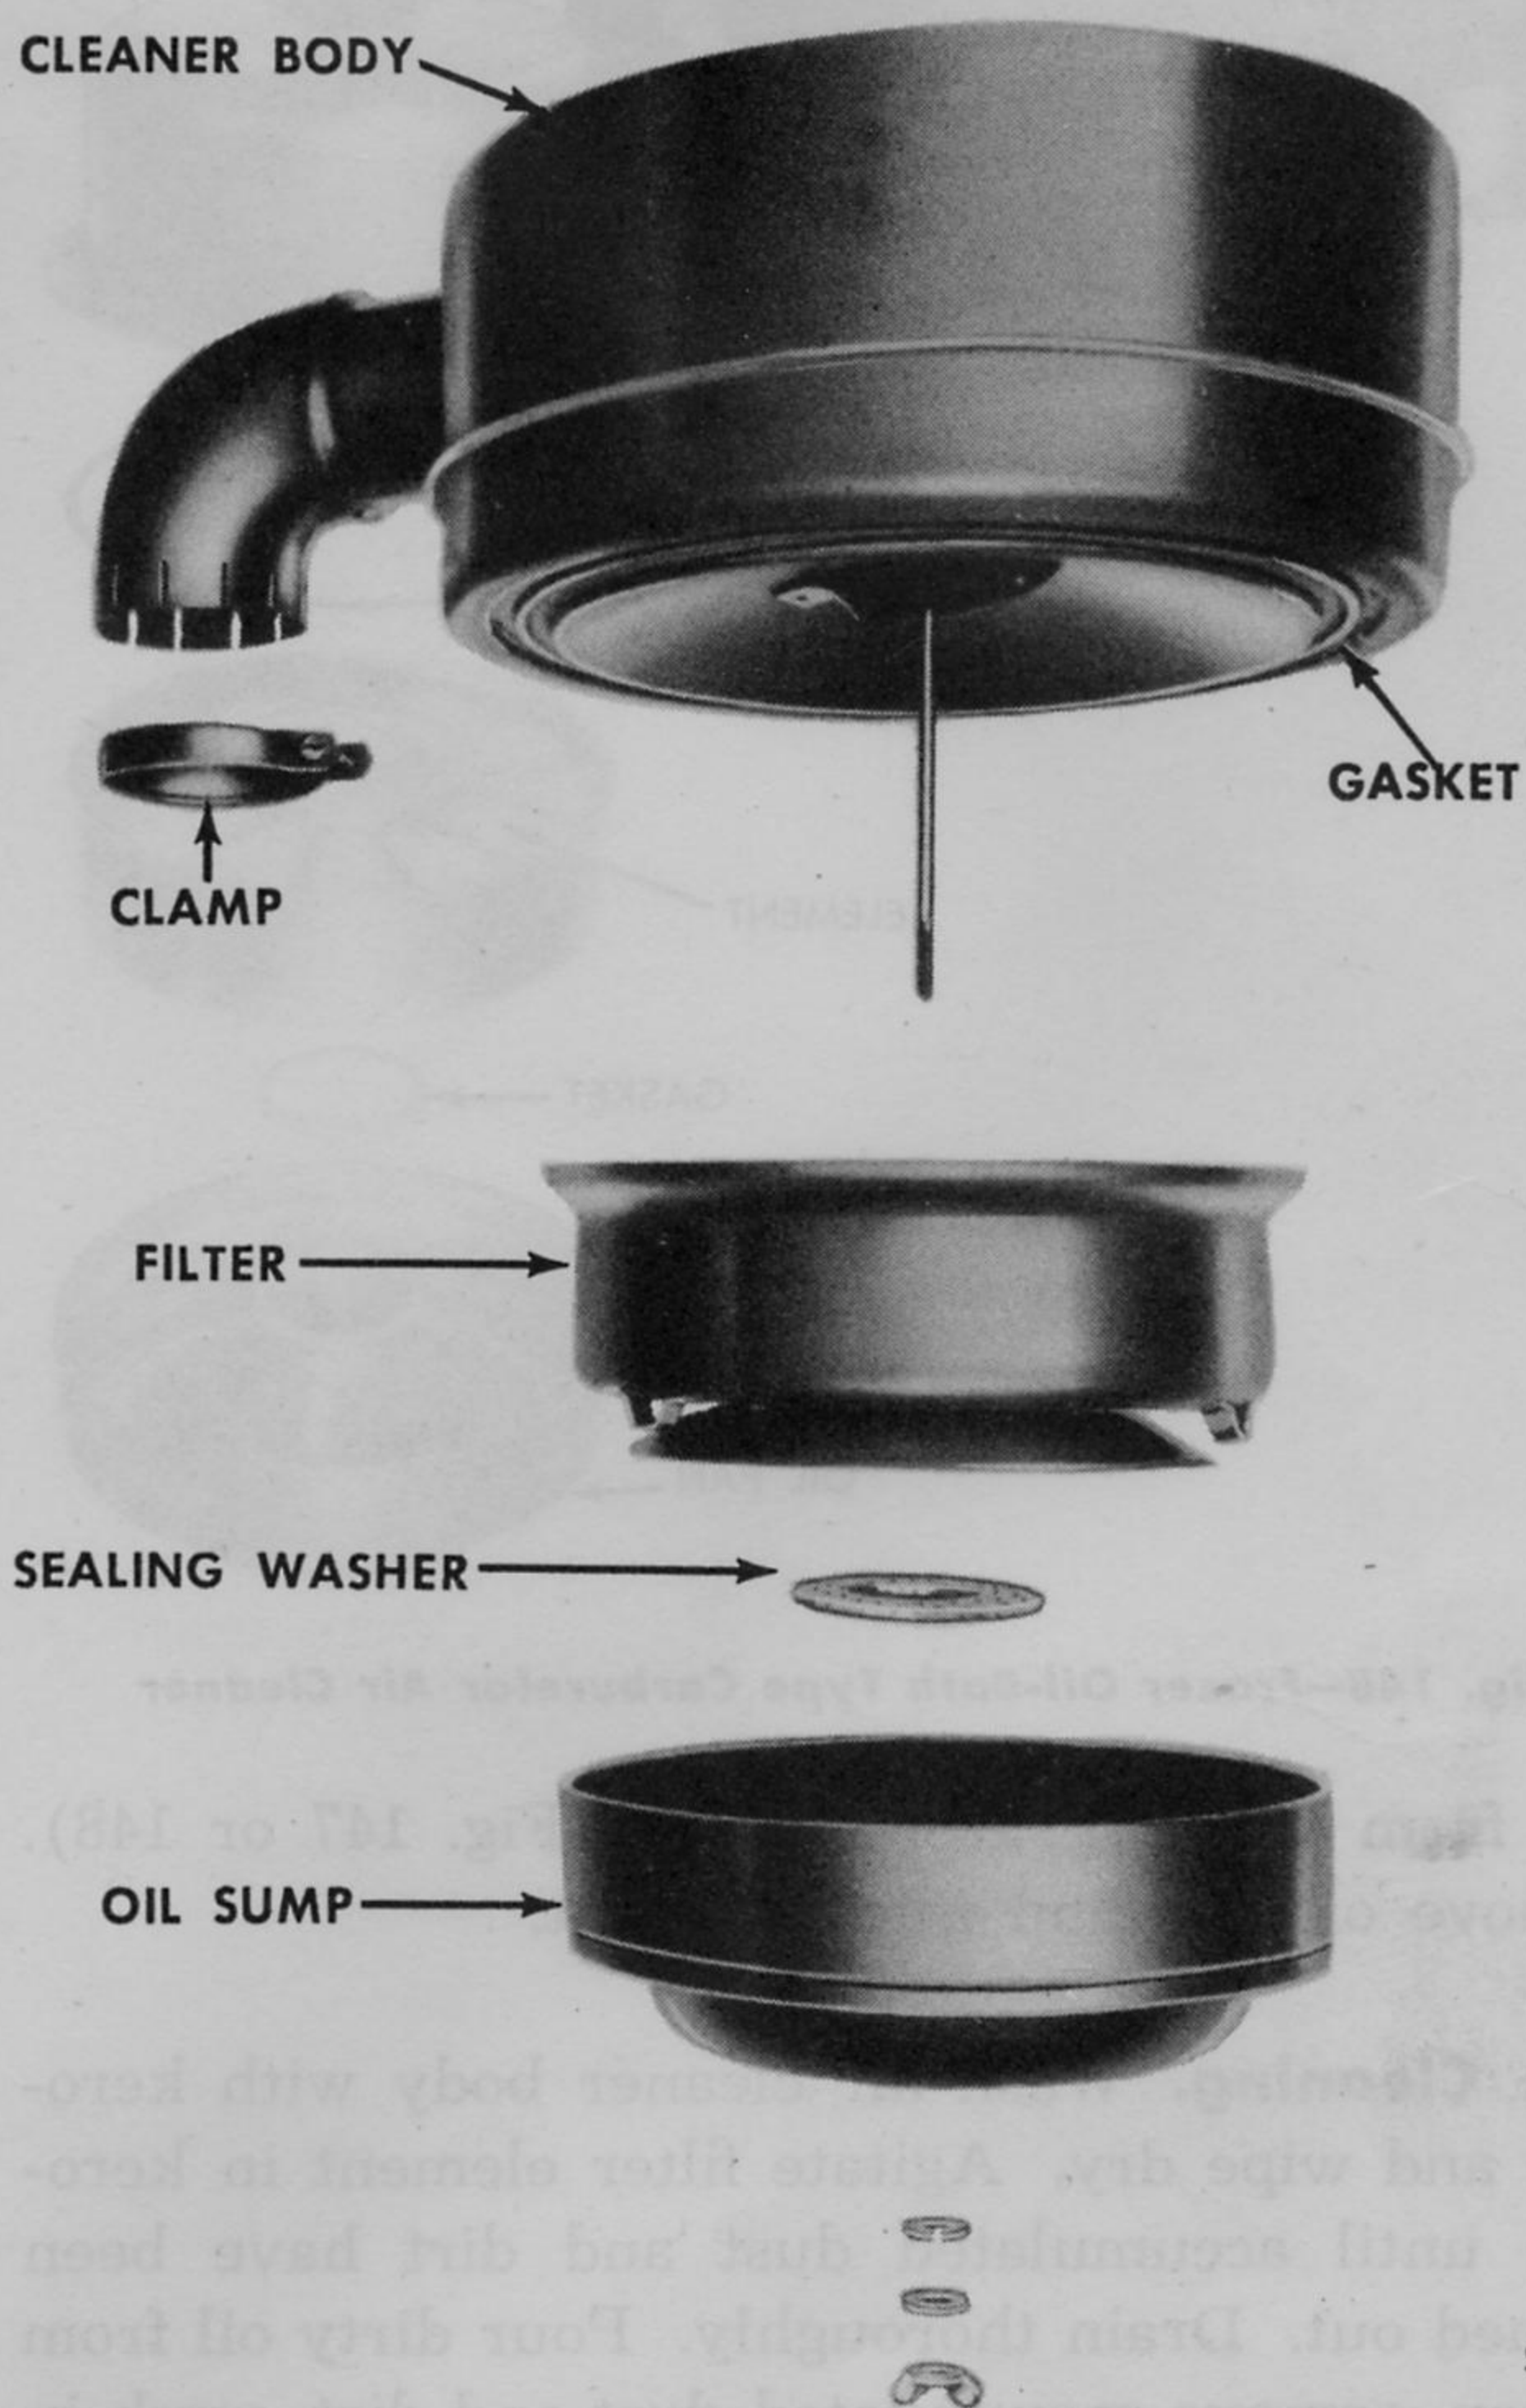
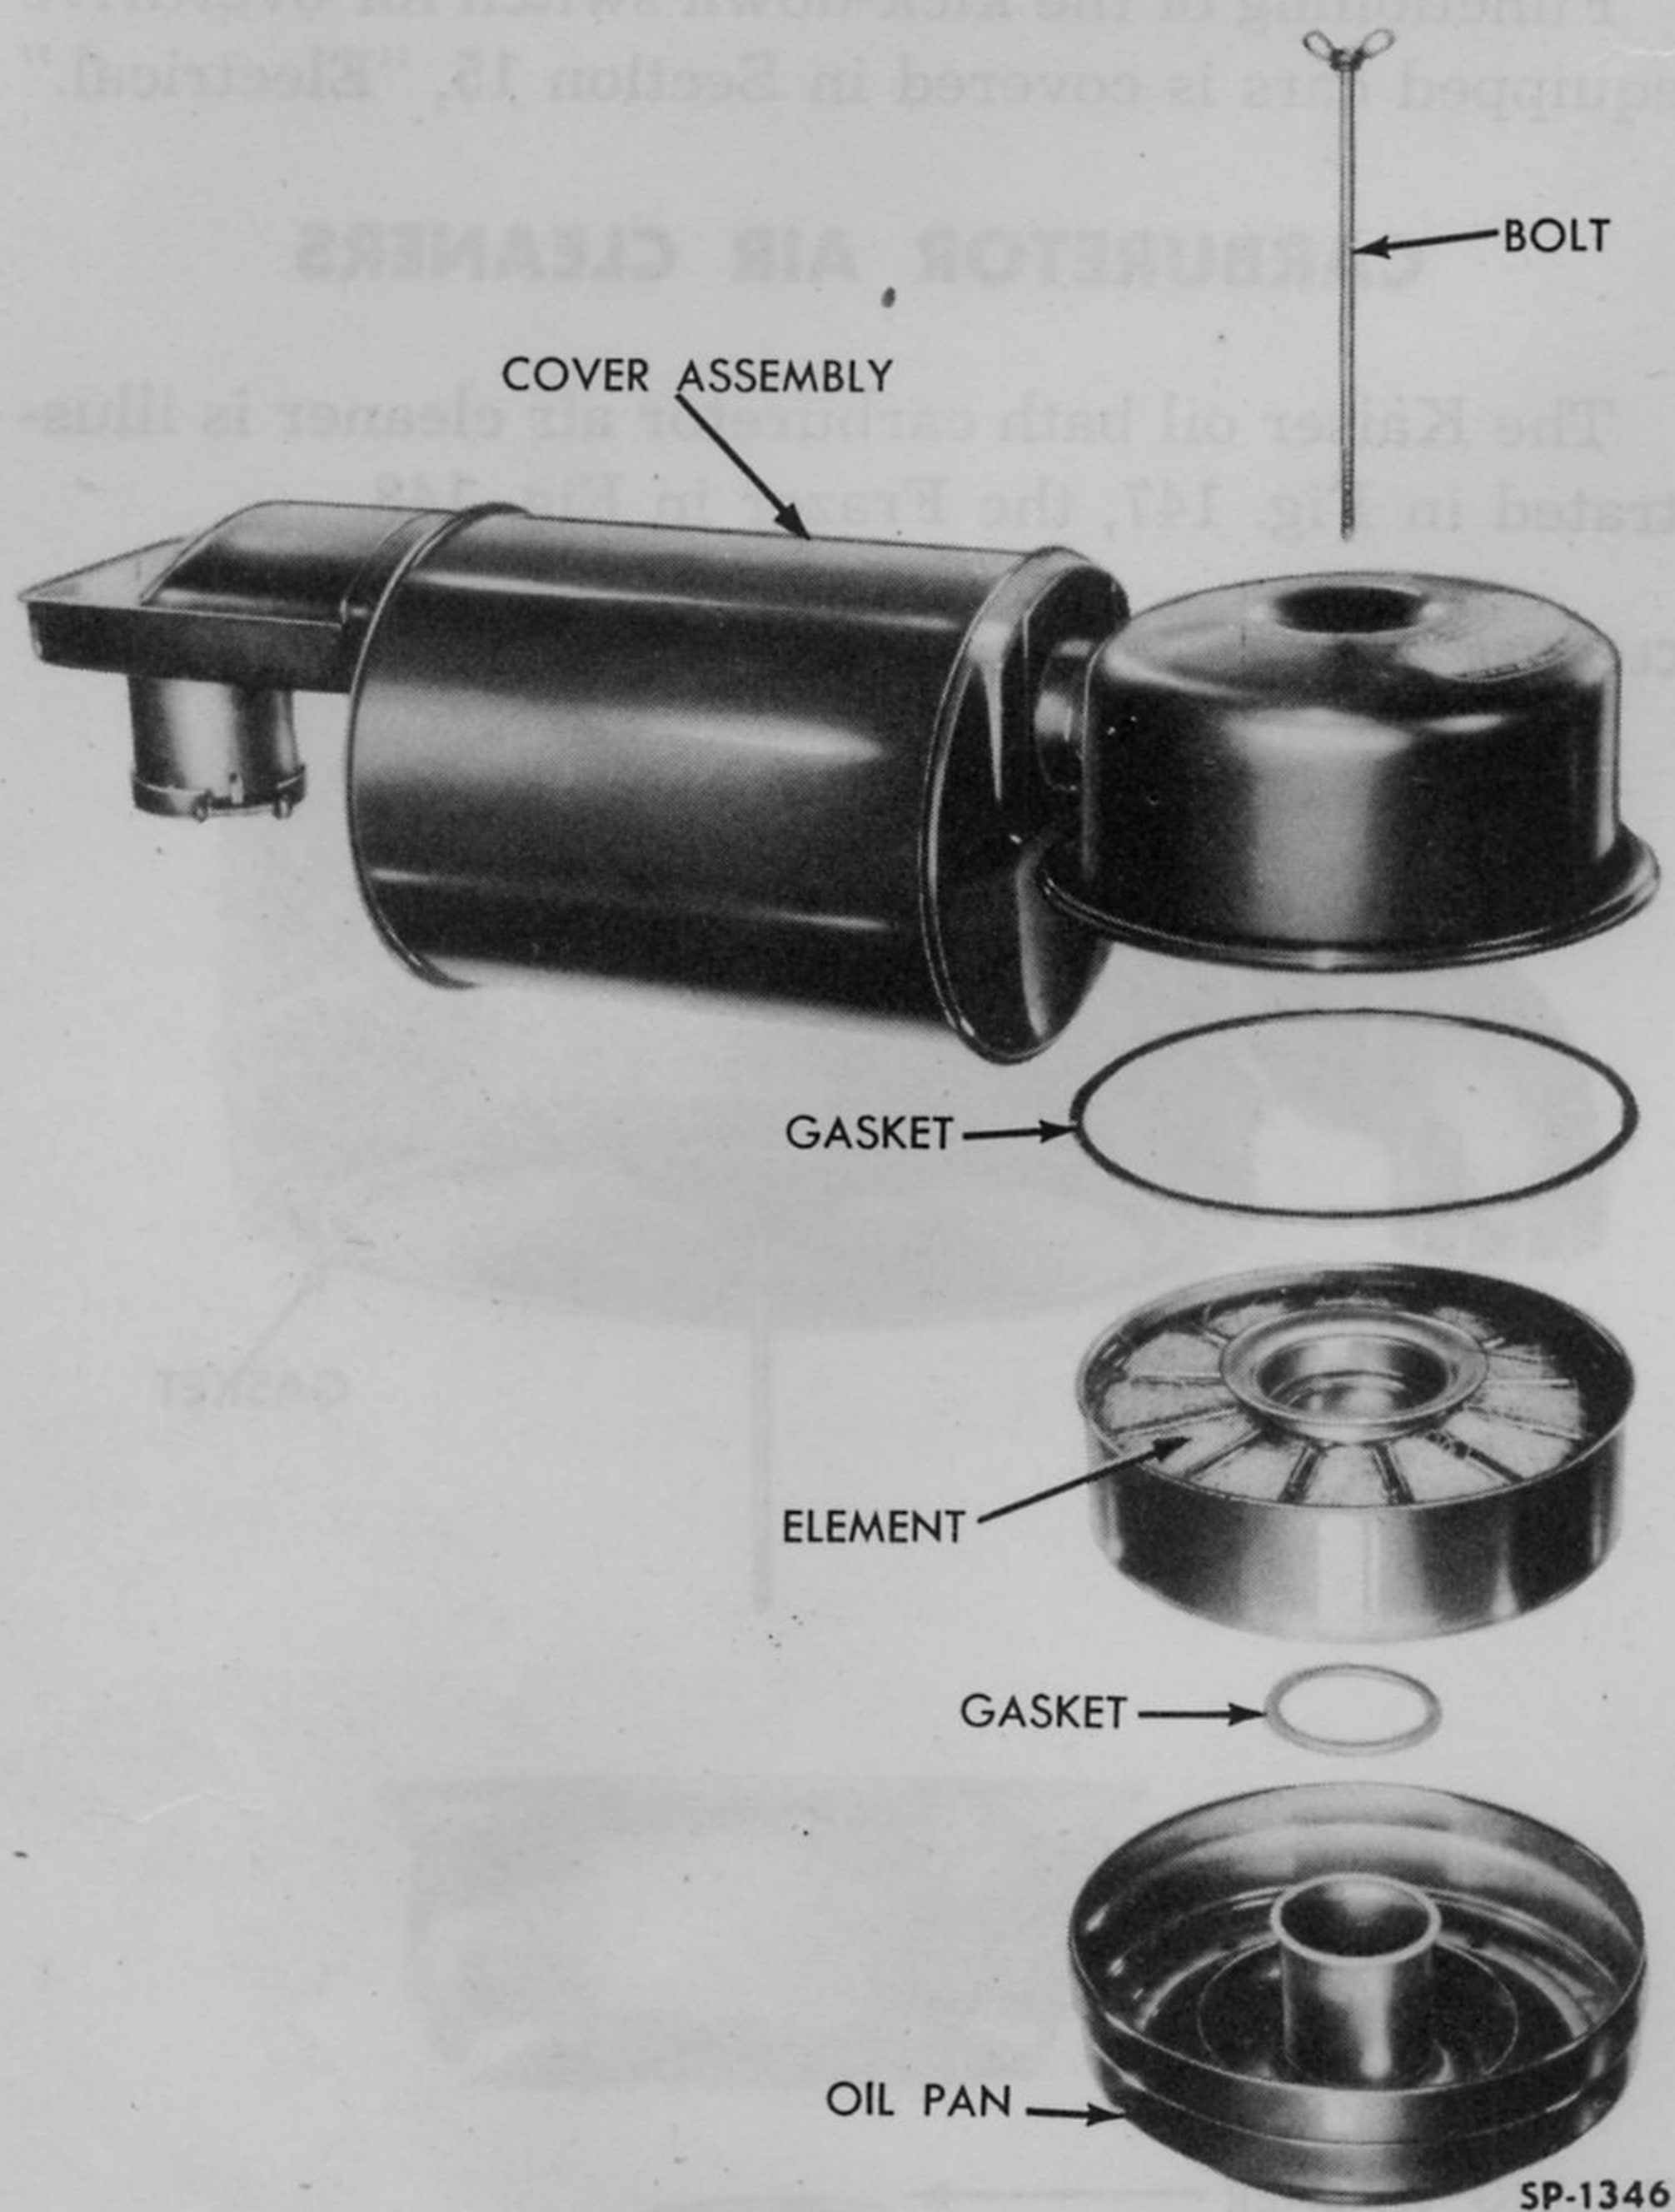

Fig. 147—Kaiser Oil-Bath Type Carburetor Air Cleaner
Fig. 148—Frazer Oil-Bath Type Carburetor Air Cleaner
The Kaiser oil bath carburetor air cleaner is illustrated in Fig. 147, the Frazer in Fig. 148.
bolt from top of Frazer cleaner (Fig. 147 or 148). Remove oil pan and filter element.
3. Reassembly and Installation. Check the gasket of the Kaiser cleaner or the two gaskets of the Frazer cleaner (Figs. 147 or 148). Replace if necessary. Reassemble in reverse order of disassembly. When installing make certain that cleaner outlet elbow or tube fits down well over carburetor air horn and that clamp and brace or support are secure.